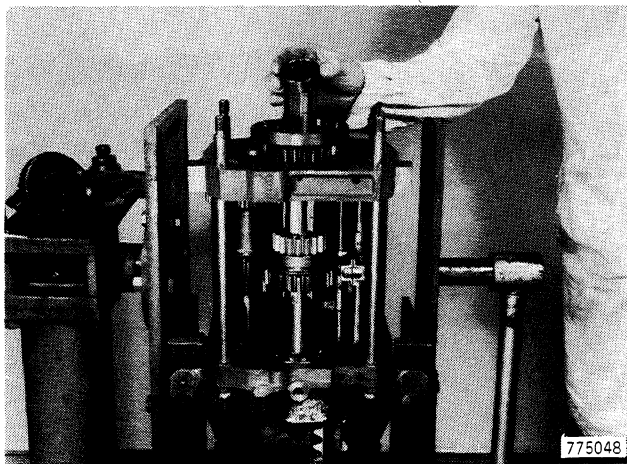

Figure 50
22. Remove spacer from reverse gear, Figure 50.